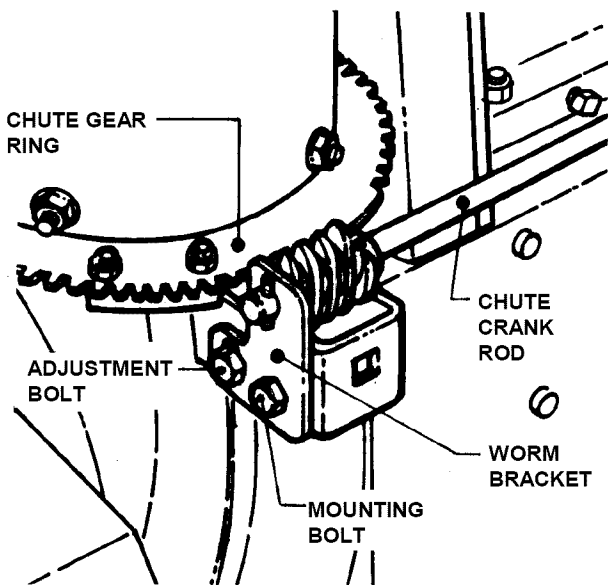

FIGURE 4.13
1. Loosen adjustment bolt. Move crank worm bracket away from ring gear slightly. NOTE: The worm gear should always maintain full contact with ring gear after adjustment. Retighten adjustment bolt. If crank still does not operate satisfactorily, lubricate worm gear and ring gear with grease. See Figure 4.13.